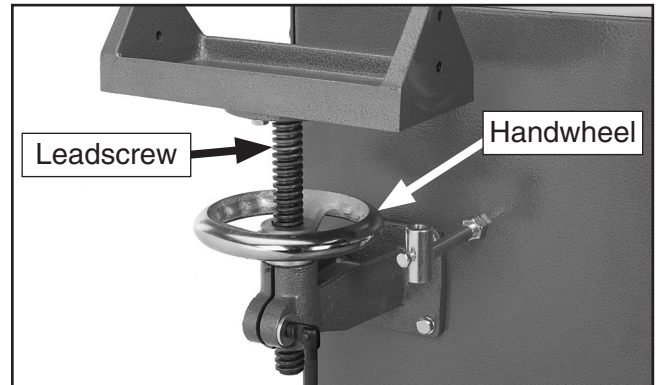

Figure 18. Leadscrew assembly installed.
5. Rotate the handwheel so it is in the center of the leadscrew, then insert the leadscrew assembly into the leadscrew bracket, as shown in **Figure 18**. Position the leadscrew assembly so the red pointer is on the left side.